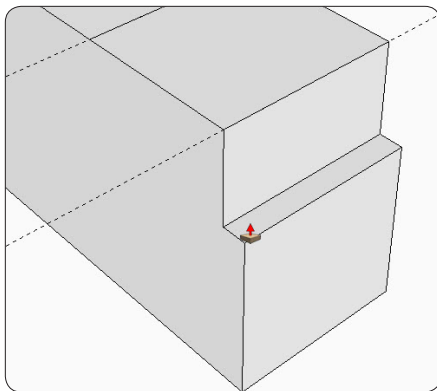

Figure 9. Using the Push/Pull tool to create the upper face of the tongue.
Step 6 Select the Push/Pull Tool. Click on the narrow rectangle at the right end of the top face. Use the tool to push that part of the face downward, along the blue axis. Type $1\frac{1}{2}$ and press the Enter key. This creates the upper shoulder of the $\frac{3}{8}$ -in.-deep tongue, as shown in Figure 9.